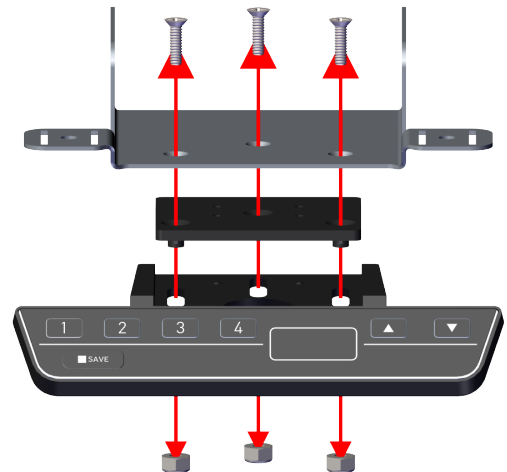

Fig. 13: Remove Memory Control Pad from bracket
6. Remove three bolts and nuts from controller bracket mount (Fig. 13).